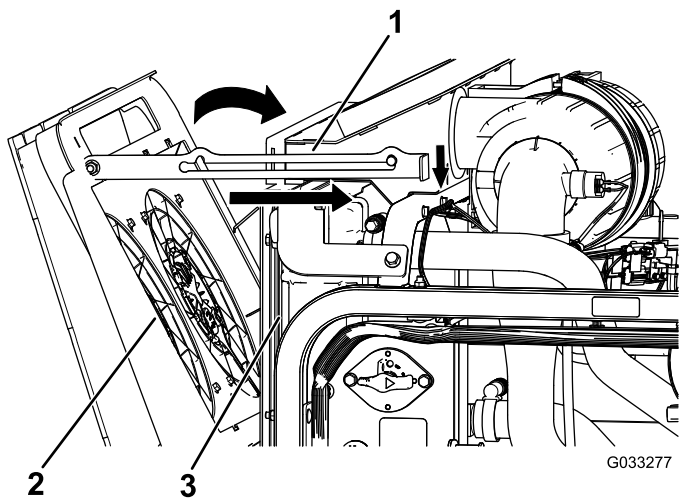

Figure 118
4. Pivot the engine-cooling fans forward and lock the prop rod into the notch (Figure 118).